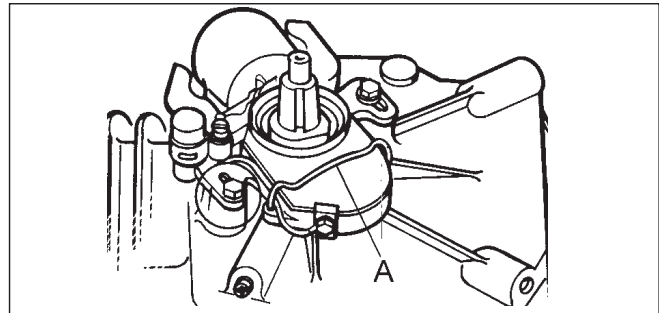

Fig. 6
- Remove retaining clip **A**, and breaker box cover, and make visual check. (Fig 6).